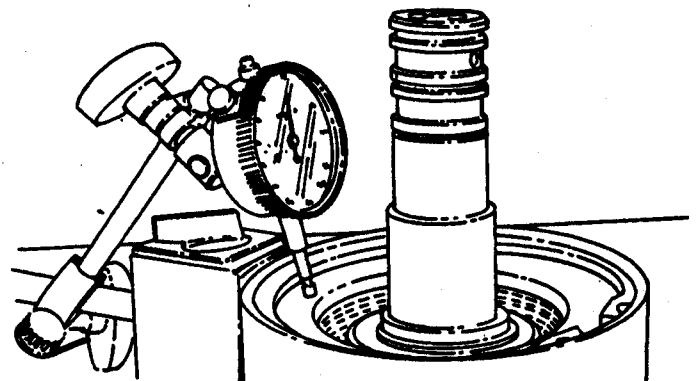

Figure 38.
- Install pressure (end) plate (43). Make sure that the prongs on the pressure plate DO NOT locate in the large grooves in the hub (the ones with drilled holes). Install circlip (46).
- Using a dial test indicator as shown in Figure 38, measure the end float of the pressure (end) plate, which should be 0.075 to 0.126 inches (1.90 to 3.20 mm). If necessary, fit shims (47, Figure 2) between the retaining circlip (46) and pressure (end) plate (43) to correct end float inaccuracies.